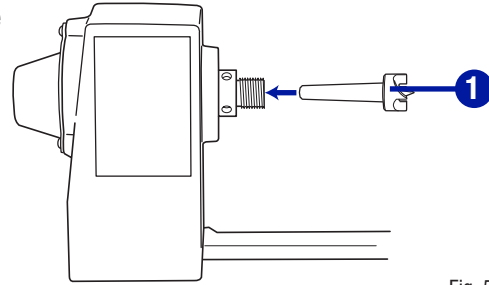

Fig. 5
- Insert the shaft of the headstock spur centre (1) into the hollow centre of the headstock spindle (Fig. 5).